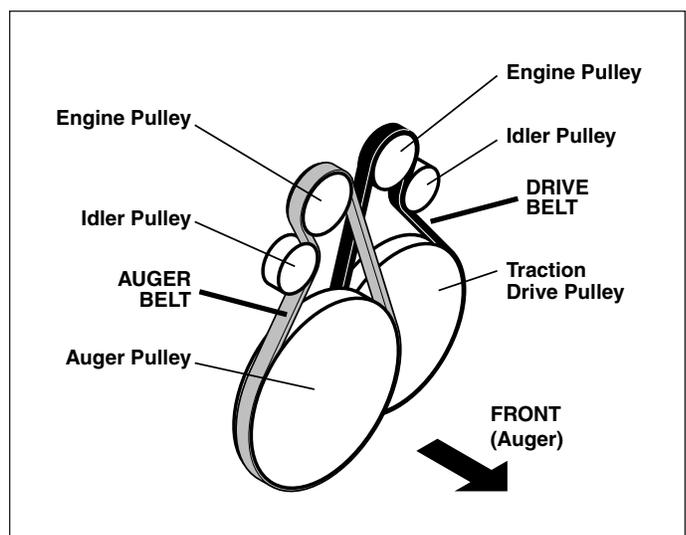

Figure 23. Drive Belt Paths
The snowthrower is equipped with two drive belts located just in front of the engine under the belt cover. Figure 23 shows both belts and idler pulleys. The belt nearest the engine is the unit traction drive (wheels) belt. The belt farthest from the engine is the auger/impeller drive belt.
3. Pull the traction drive belt idler pulley arm (See Figure 23) away from the belt to relieve tension, and slide the belt off the engine pulley.